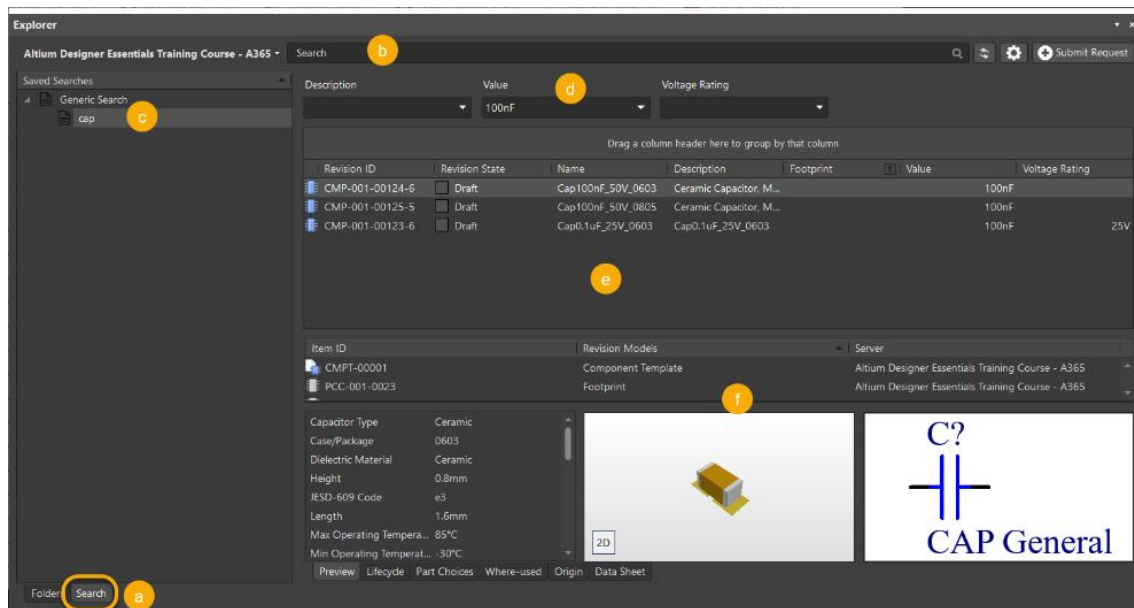

Figure 4. Explorer Panel - Search Component View
9. A second view allows you to search for specific components, as shown in Figure 4.